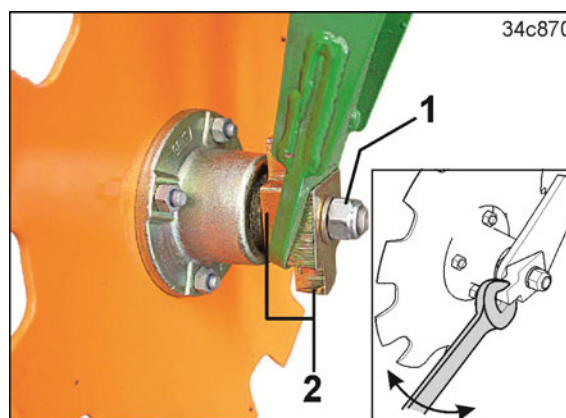

Fig. 220
2. Loosen the nut (Fig. 220/1) and rotate the track marker disc together with the wedges (Fig. 220/2).